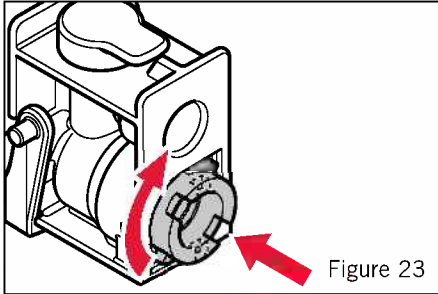

Figure 23
- Replace the frother nozzle in the milk frother and lock the nozzle by turning it 45° with the rounded end of the measuring spoon. See Figure 23.